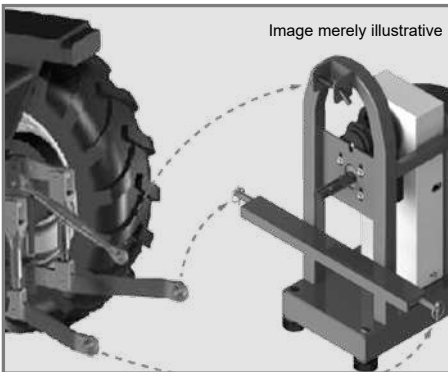

Figure 1
- ✓ The TRR 280 shredder is designed to be attached to a tractor equipped with a Category II 3-clamp hydraulic lift as shown in Figure 1.